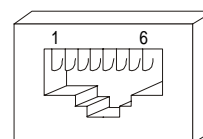

Figure 1. RJ-11 Jack
4. Connect the RS-423/V.10 transmission cable to the RJ-11 socket. (See Figures 1 and 2).